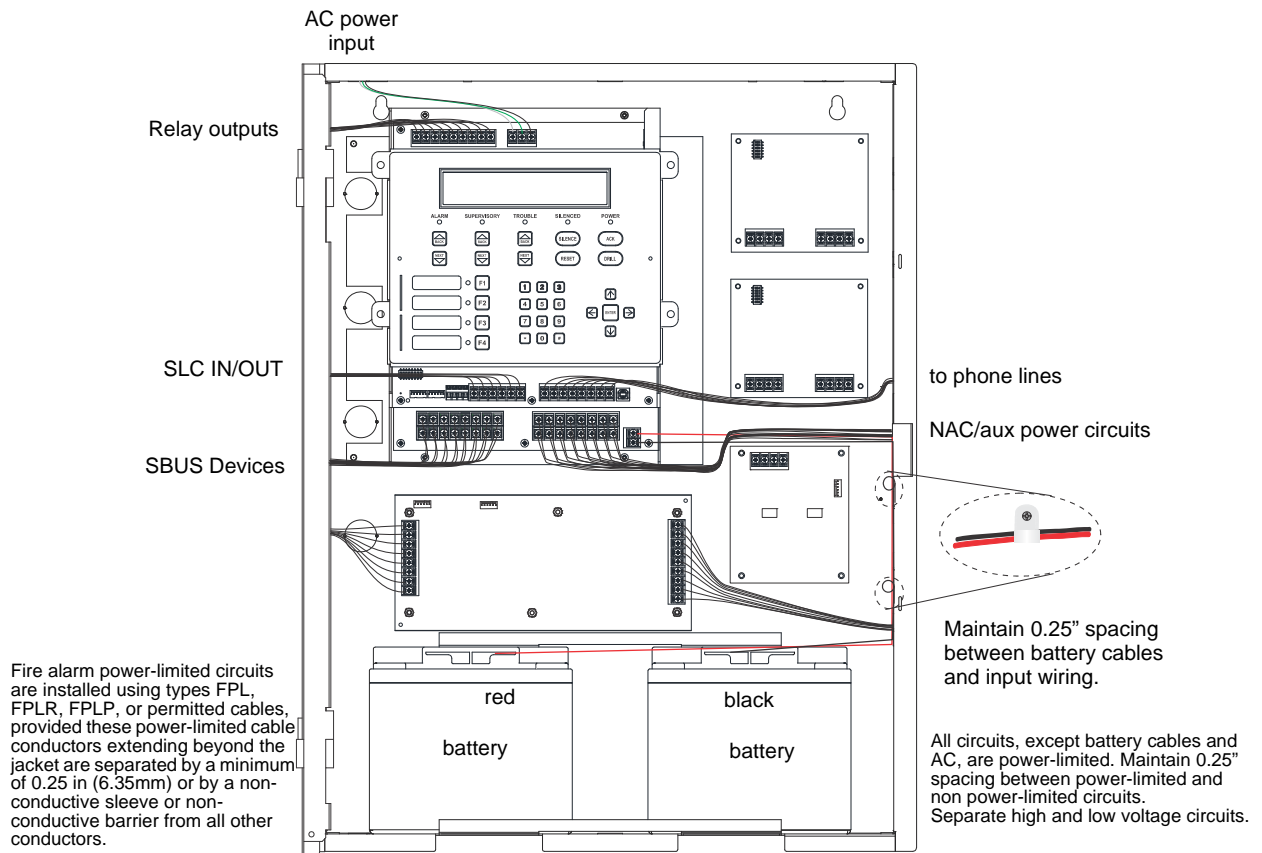

Figure 4.4 Wire Routing Example for TR-2100ECS
- Route the wiring around the inside perimeter of the cabinet. It should not cross the circuit board where it could induce noise into the sensitive microelectronics or pick up unwanted RF noise from the high speed circuits. See Figure 4.4 for an example.
**NOTE:** Figure 4.4 is an example of how the wire connections can be routed. However, any other cabinet knock-outs (on either the main control panel or the RBB/AB-55 cabinet), that are not previously being used may be utilized to connect conduit between the two cabinets.